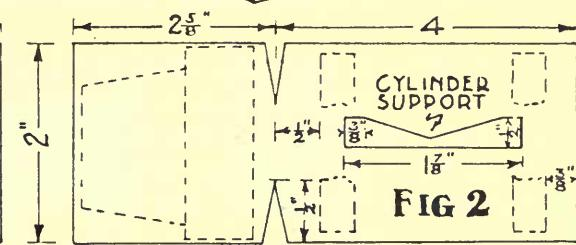

FIG 2
- (e) For the base see Fig. 2. " Vs " made by two saw-cuts are added. Two cylinder supports—see Fig. 2 (inset)—should be glued to the base. The cylinders are short lengths of $\frac{3}{8}''$ dowel rod glued to one another and to the supports.